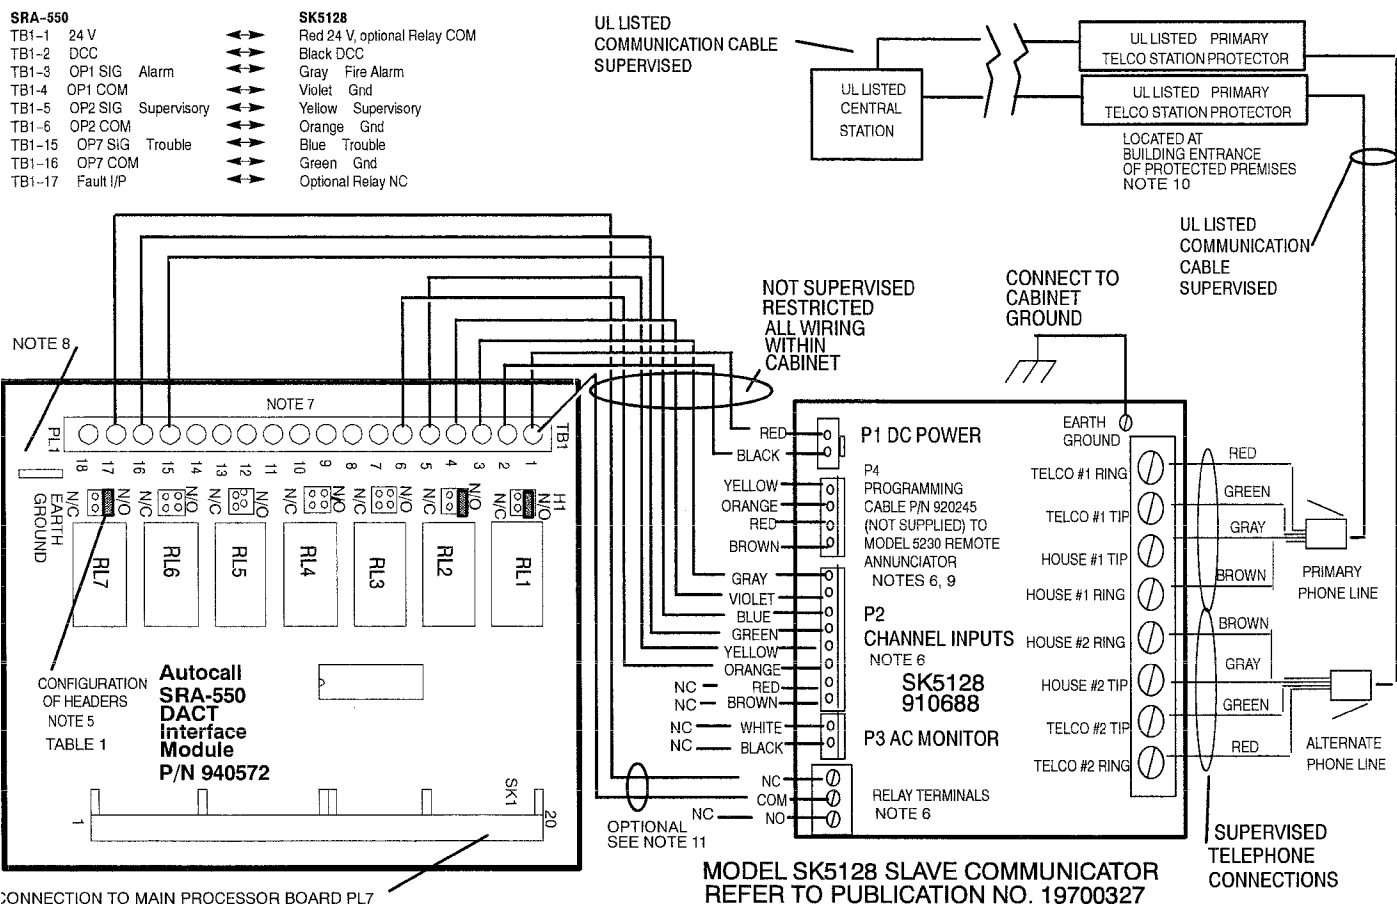

Figure 2. Wiring SRA-550 to SK5128 DACT Module. All circuits and connections are power limited/Class 2.
**Wiring Notes (Figure 2):**
11. Optional supervision of SK5128 can be incorporated by connecting the relay output as shown in Figure 2 and programming the SK5128 for trouble reporting. This will report dialer trouble as well as system trouble. The TFX control panel must also be programmed to monitor input at Terminal 17 of the SRA-550 module.